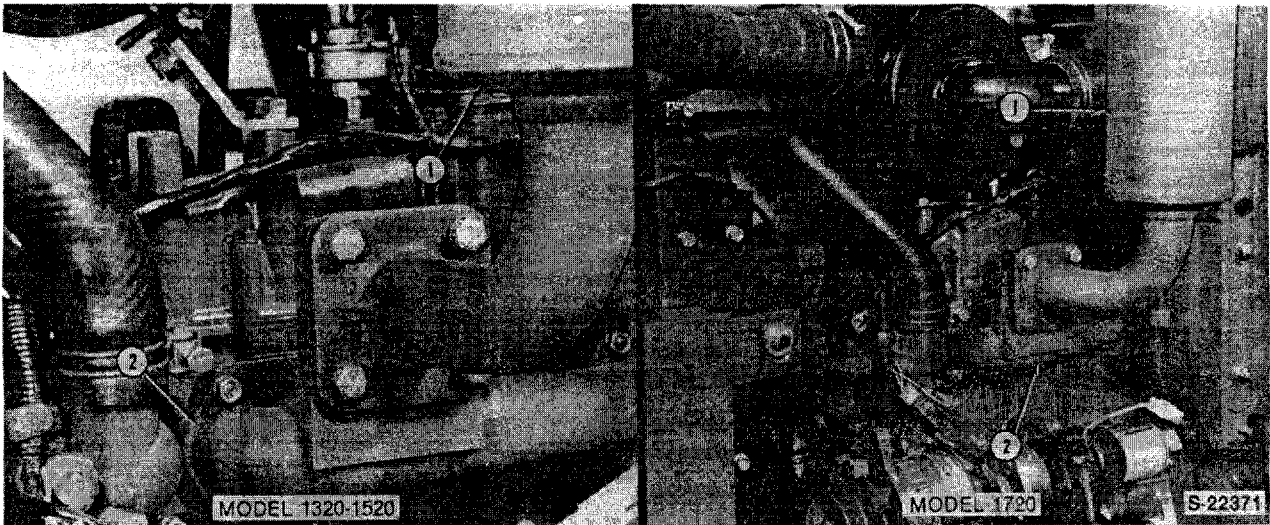

Figure 3
4. Remove the exhaust muffler and manifold assembly, Figure 3.